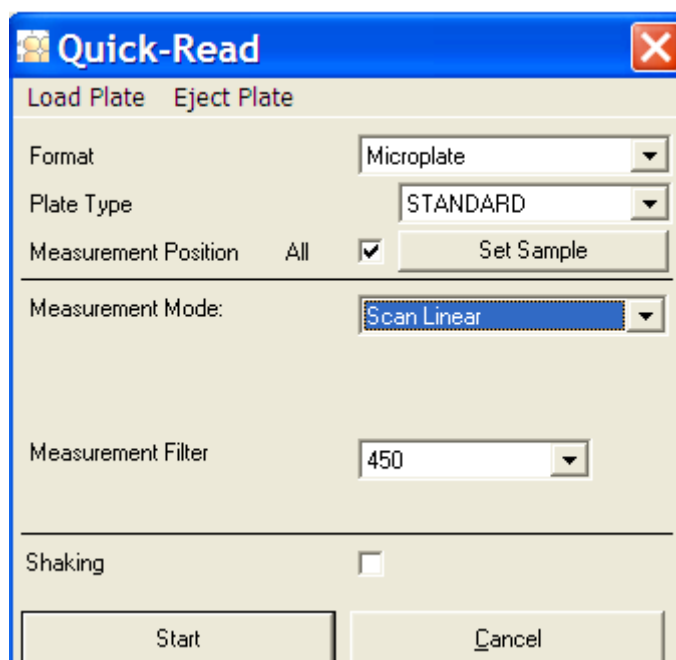

Figure 6-10: Quick-Read – Scan Linear parameters
2. In Measurement Mode, choose **Scan Linear**. The measurement parameters available for linear scan measurements appear (Figure 6-10).